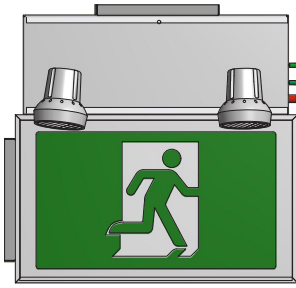

Figure 2
1. Extend unswitched 24 hour AC supply of rated voltage to junction box or appropriate wiring (supplied by others). Leave at least eight (8) inches of slack wire. The circuit should not be energized at this time.
2. Remove the sign power pack cover screw(s). Lift the power pack cover out of the way; it will be attached to the circuit board inside by lamp wires for the front heads. There is no need to disconnect these wires unless they impede installation (figure 2).